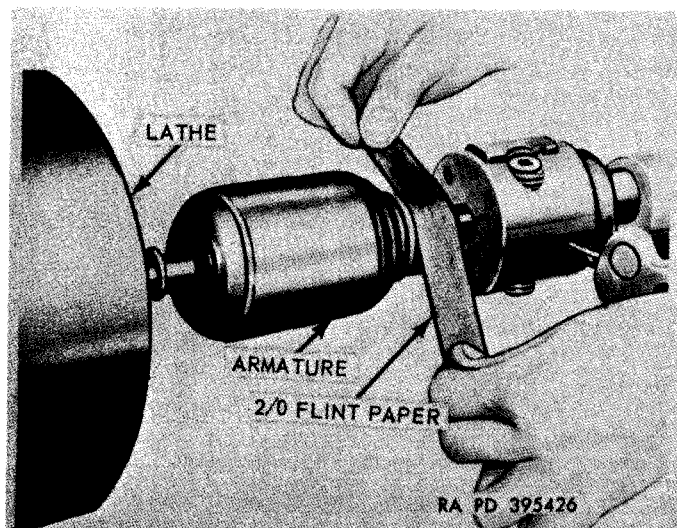

Figure 3-34. Polishing armature commutator with sandpaper.
(2) *Polishing commutator.* Remove all copper and mica particles with compressed air. Polish commutator in a lathe with 2/0 sandpaper as illustrated in figure 3-34, with armature rotating at 1500 rpm.